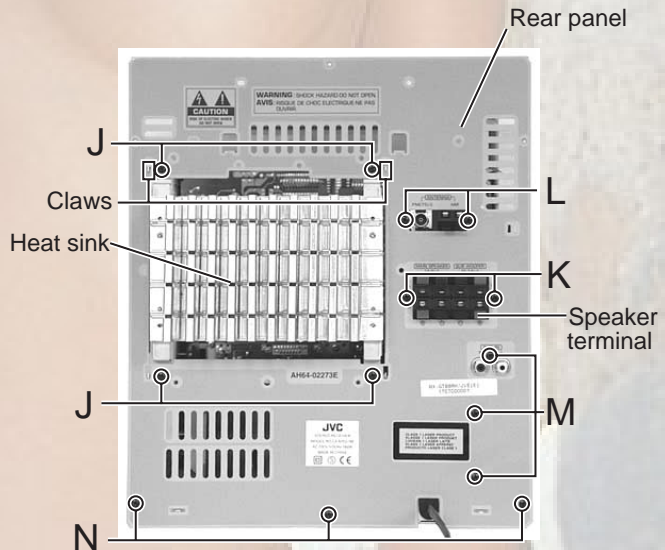

Fig.12
(See Fig.12 and 13)
**■Removing the rear panel** (See Fig.12)